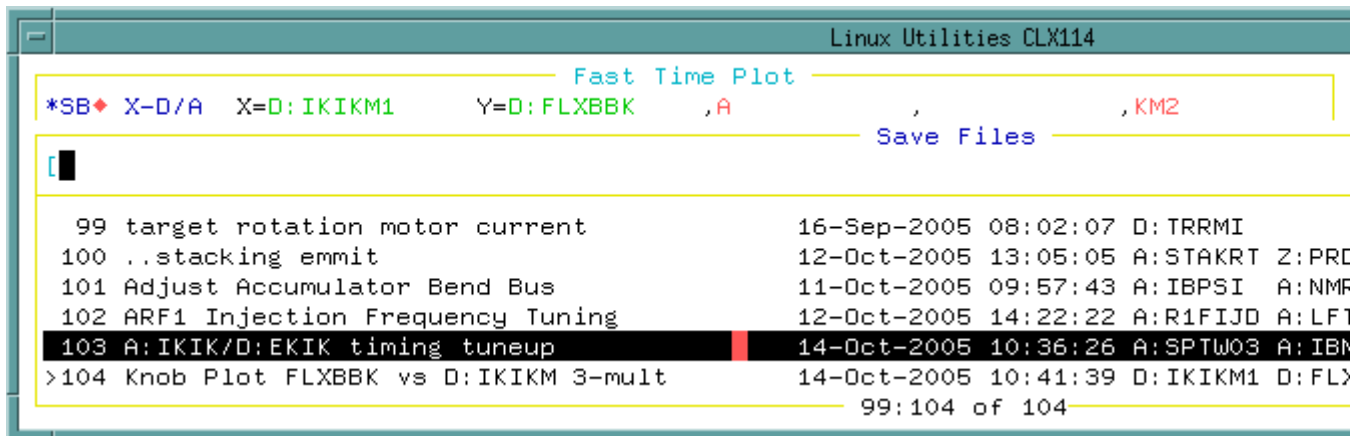

Figure 23: From the Utilities Window, click on FTP, then click on Restore, and then select P-bar. Select file 103 and start the FTP.
1. As shown in Figure 23, start a FTP from Utility Window FTP Pbar File 104.